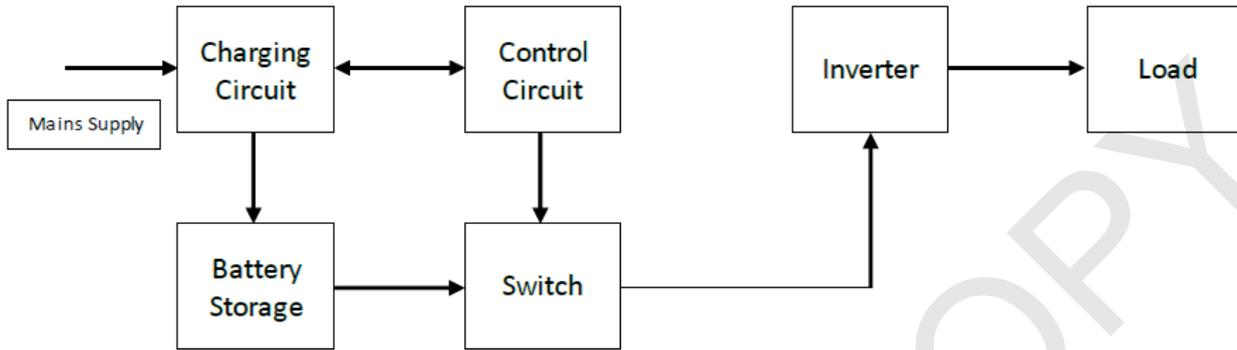

Figure 10.17 Simplified block diagram of an online UPS
- Online:** with an online UPS, the battery-supplied inverter is connected directly to the load. The mains supply is not connected to the load, so the problems on the grid (outage, power quality) do not affect the load. A block diagram of an online UPS is shown in Figure 10.17.